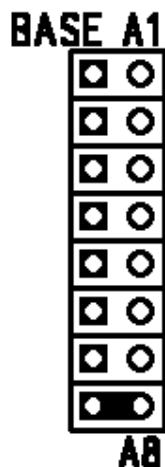

Fig. 2-2: Base address jumpers illutrating address 300 h
- Fig. 2-2: Base address jumpers